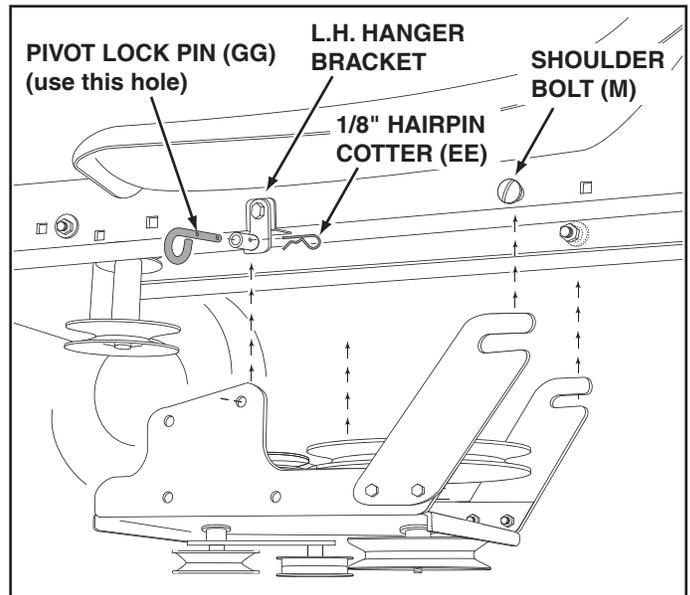

FIGURE 12
STEP 12: (SEE FIGURE 12)
- Attach the clutch/idler assembly to the tractor frame. Hook the notched suspension arms onto the two shoulder bolts (M) assembled to the outside of the tractor frame. Lift the front of the assembly and attach it to the R.H. and L.H. hanger brackets using two pivot lock pins (GG) and 1/8" hairpin cotters (EE).